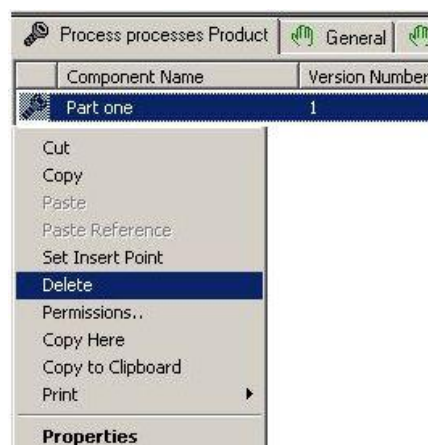

Figure 86: Deleting Relations in the Listview
- 2) Select the linked object in the listview under the tab of the relation – in the example Part one. *Please refer to the Figure 86.*